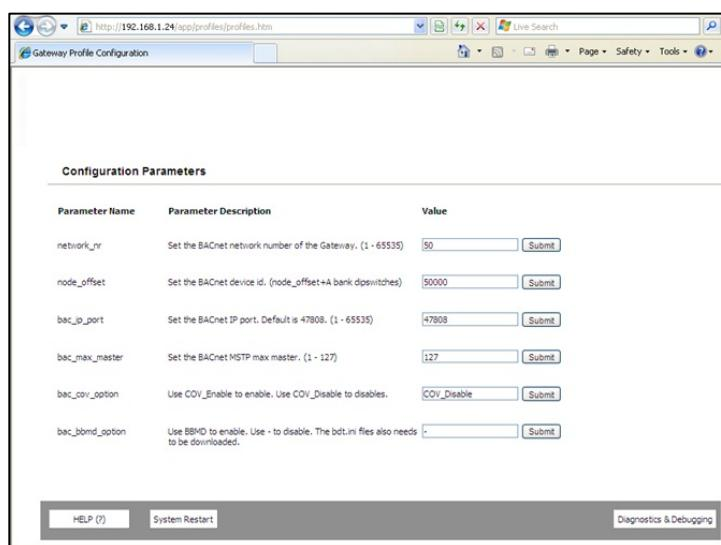

FIGURE 2-2: MAC Address DIP Switches
- If the Device Instances need to be set for addresses other than 1 to 255, change the Node-Offset (See Figure 2-2)
- BACnet/IP and BACnet MS/TP Addressing: The BACnet device instances will be set by taking the Node_Offset found in Web Configurator (see Figure 2-2) and adding it to the value of the A Bank DIP switches. When more than one device is connected to the ProtoNode, the subsequent BACnet device instances will be sequential.
- Set the PC address to be on the same subnet as the ProtoNode. See section 5.3 on how to change the IP address. (See Figure 2-2)